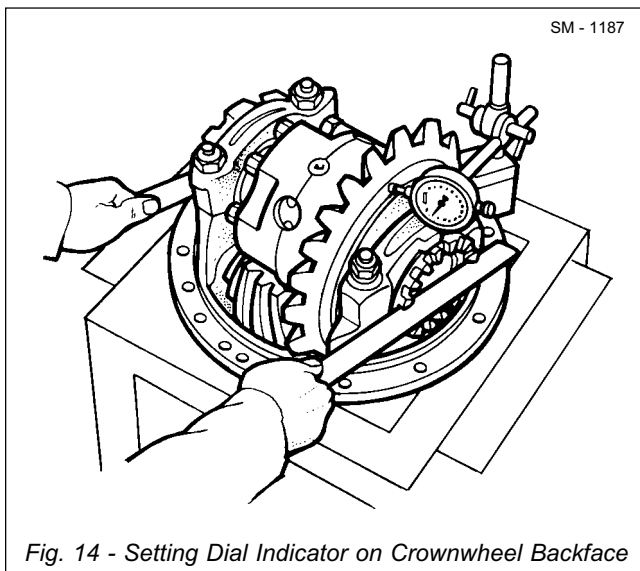

Fig. 14 - Setting Dial Indicator on Crownwheel Backface
1. Set up dial indicator on back face of crownwheel (11) as shown in Fig. 14 and screw in each adjusting nut (16) just sufficiently to ensure that no crownwheel axial movement is registered on dial indicator.
2. Tap straps (49) and rotate crownwheel, then re-check that no axial movement is present.